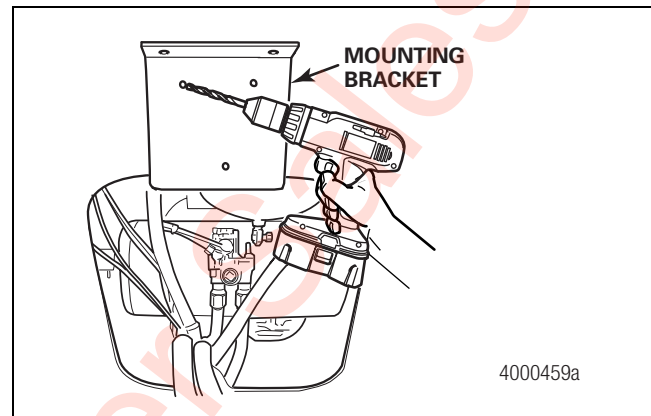

Figure 2.55
1. Locate the control box as described in this section. Use the supplied mounting bracket as a template and drill three 1/4-inch (6.36 mm) holes into an appropriate mounting surface to position the control box as described in this section. Figure 2.55.